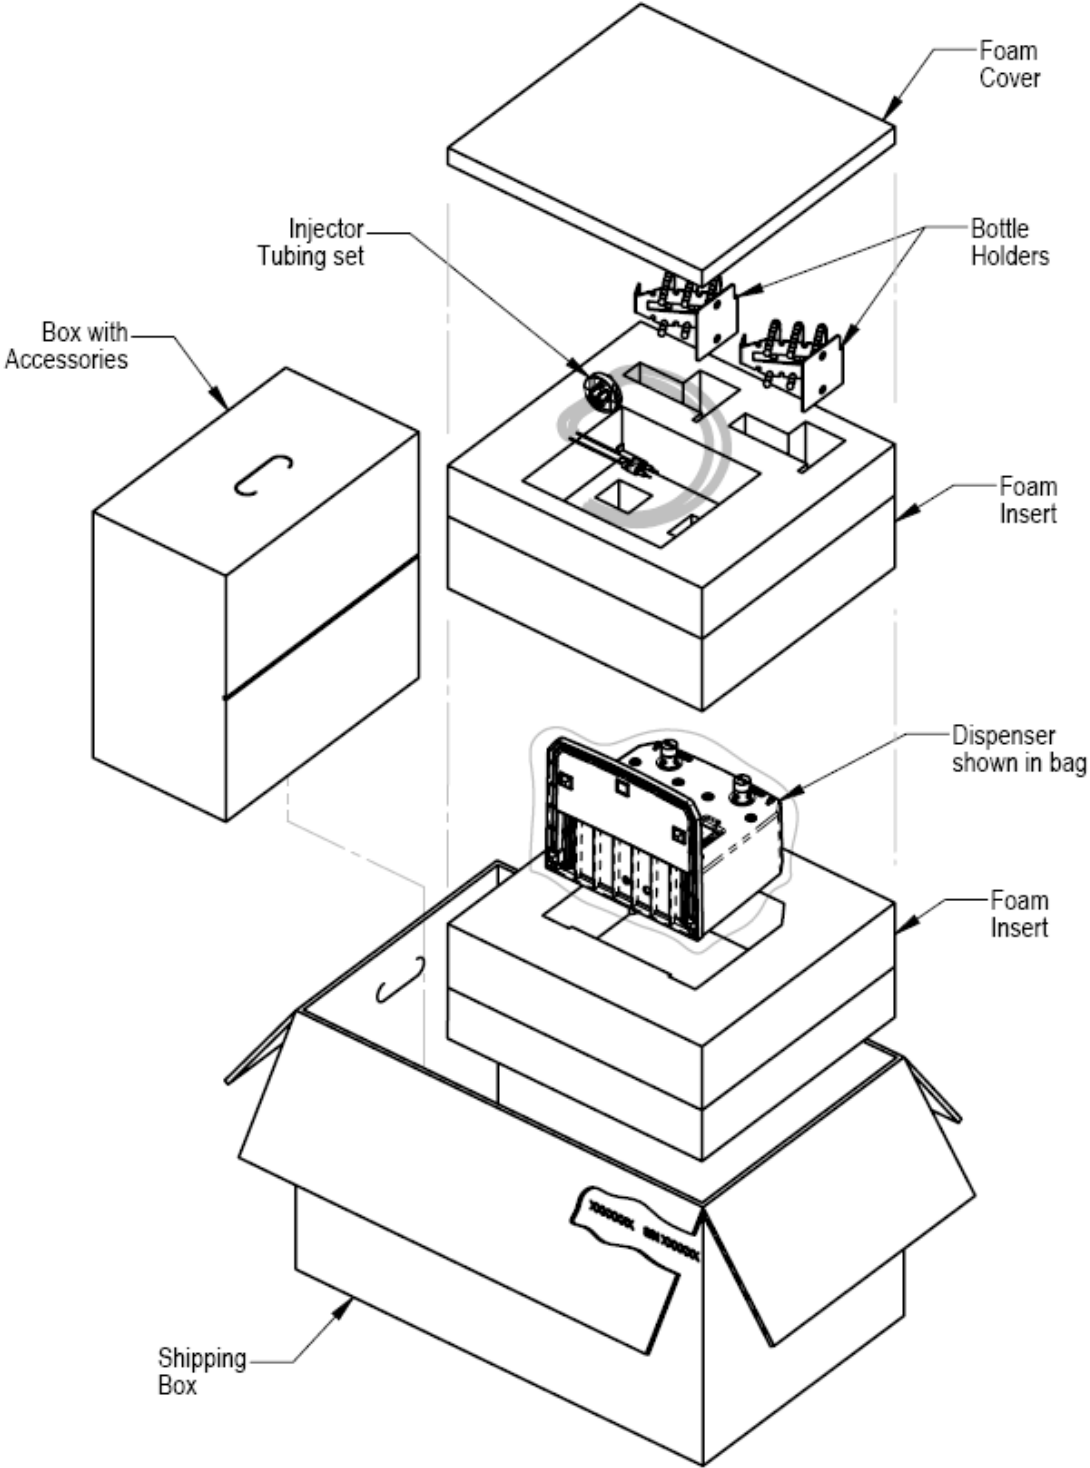

Figure 10: Packing the dispense module
11. Insert the bottom foam end cap in the shipping box, and place the dispense module inside the end cap. See **Figure 10**.